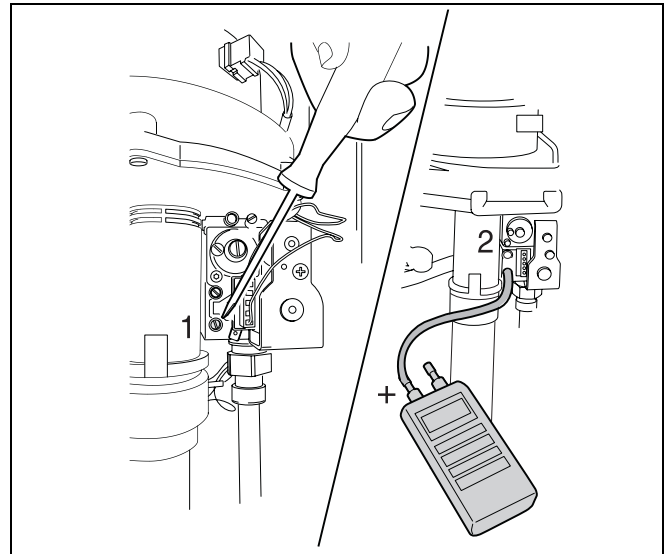

fig. 53 Measuring the gas-supply pressure
- Attach a tube from the pressure gauge to the gas test nipple (the lower one, see fig. 53, item 2).